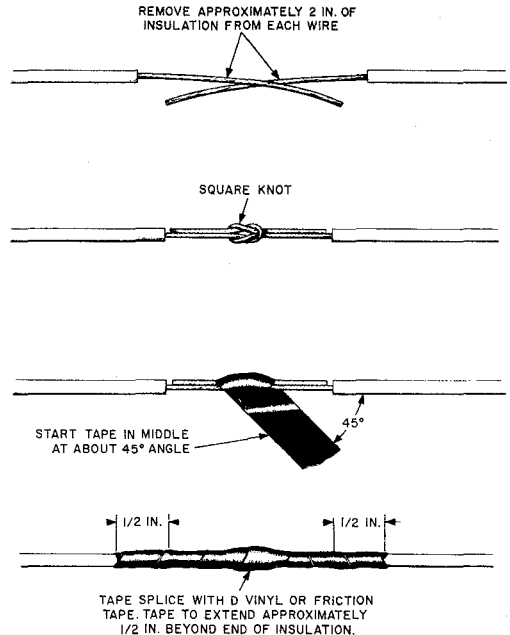

Fig. 5—Repairing Broken Cord
- (1) A maximum of three splices permitted.
- (2) No splice permitted if the open is within four inches of the indicator assembly.
- (3) The overall length of the cord between the ground clip and indicator assembly shall not be less than 7 feet, 6 inches.
4.03 Open cords are spliced as follows (Fig. 5):